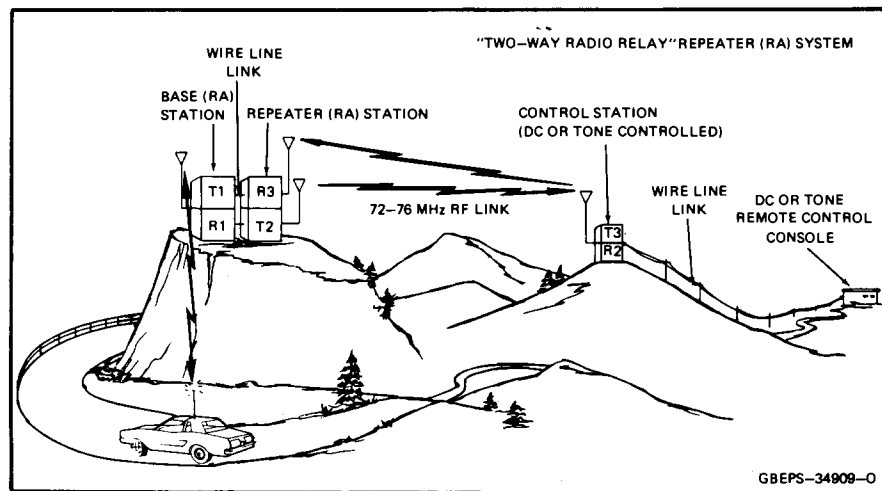

Figure 2.
A Motorola repeater (RA) station features specific control facilities and circuitry to operate a companion base (RA) station in a "two-way radio relay" repeater system. Refer to Figure 2 for a typical example of this system.
In the typical "RA" system (refer to Figure 2) a received message at the repeater (RA) station actuates the squelch gate in that station. This keys the companion base (RA) station which retransmits the message to